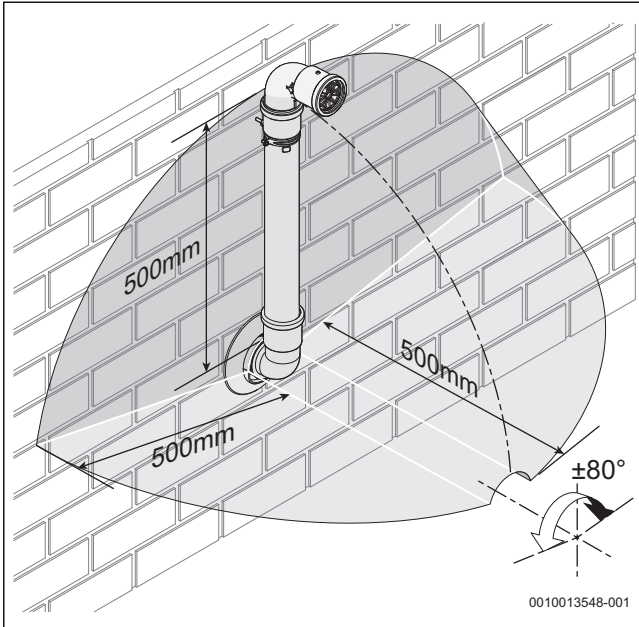

Fig. 28 Terminal exclusion zone
- ▶ Do not terminate the plume management inside the terminal exclusion zone (shaded area) shown in figure 28.